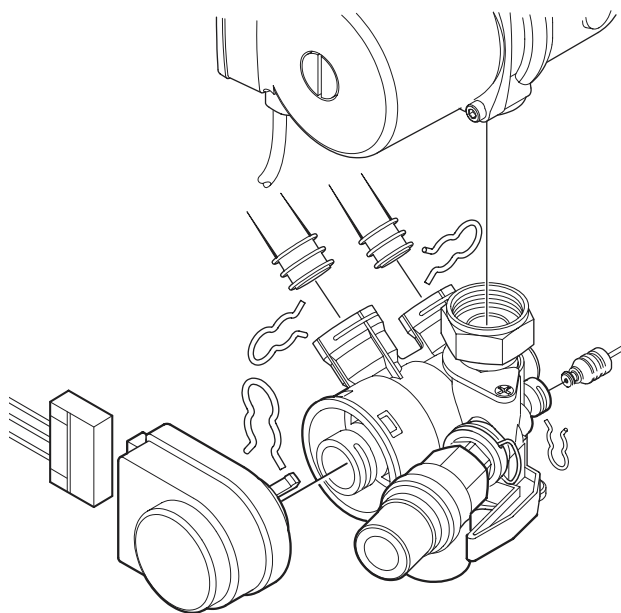

Fig. 59
- ▶ Unplug connector from 3-way valve motor. Refer to fig. 59.
- ▶ Disconnect the capillary head from the rear of the diverter valve by withdrawing the clip and pulling out the head. Refer to fig. 59.